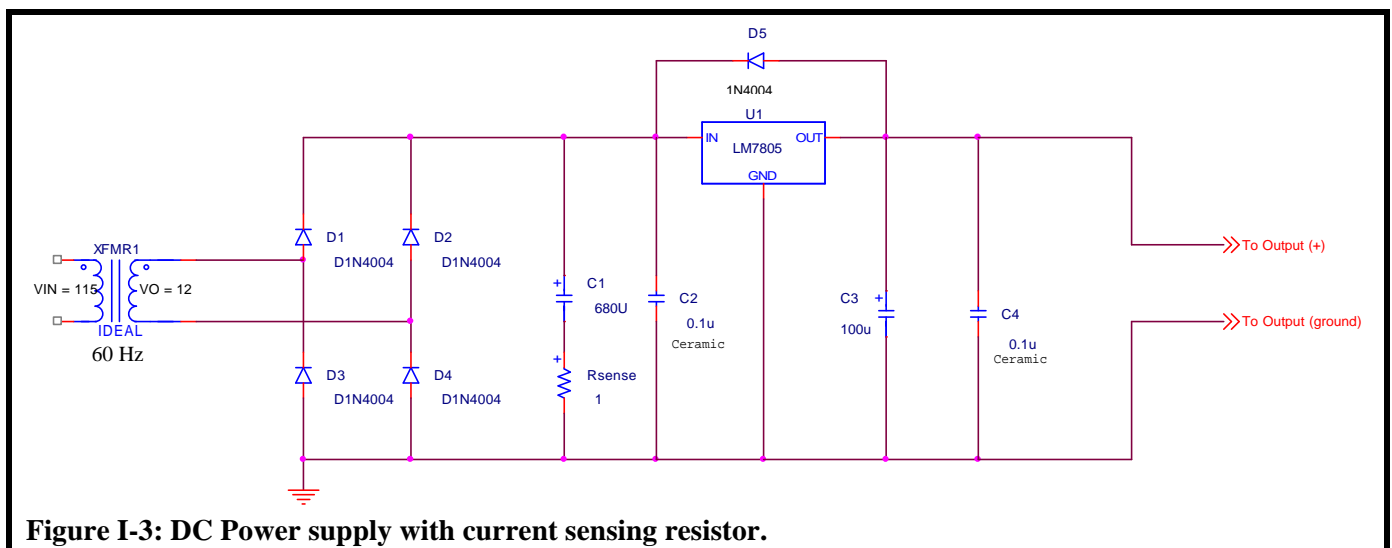

Figure I-3: DC Power supply with current sensing resistor.
The circuit of Figure I-2 is what you would use for a real supply. Since this is an academic exercise, we would like to be able to measure the capacitor current and we will add a 1 Ω sensor as shown in Figure I-3:
We will build the power supply shown in Figure I-3 with and without the current sensing resistor. Before coming to lab, you may want to think about the following questions:
- Why is the output of the transformer not grounded in the circuit of Figure I-3?
- Add the 1 Ω current sensing resistor as shown in Figure I-3. At full load make the following measurements and enter the values in **Table I-1**.: